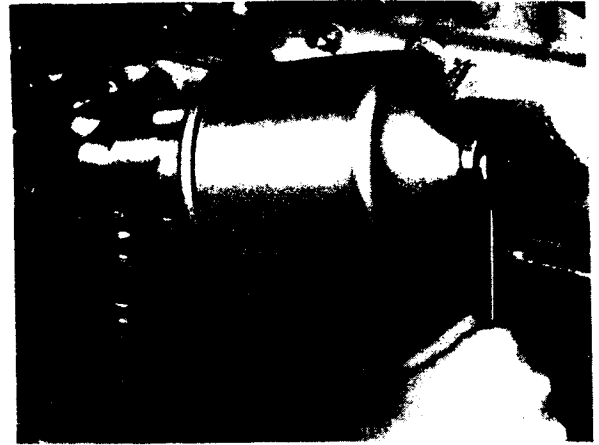

Fig. N.12.
1. Unscrew filter bowl securing setscrew as shown in Fig. N.12.